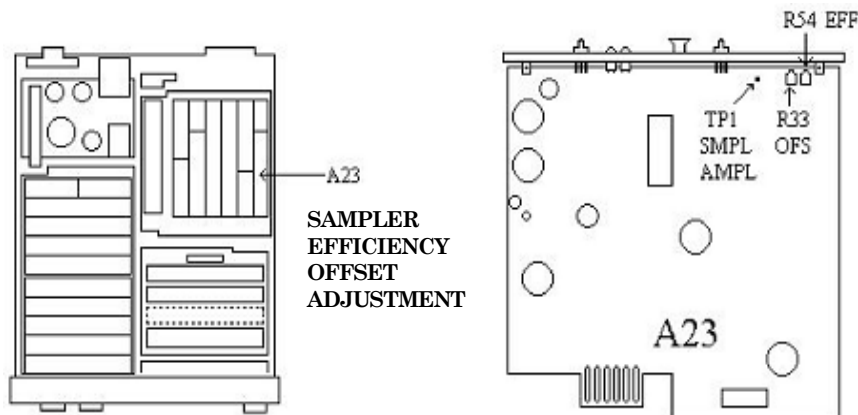

Figure 7. A23 board.
- (2) Connect TI sensor module to signal generator No. 1 **RF OUTPUT**.
- (3) Connect oscilloscope **Vertical 1** input to A23TP1 SMPL AMPL (fig 7).
- (4) Set signal generator No. 1 for an output of 18 MHz at a level of 0 dBm.
- (5) Set oscilloscope for the following:
- (6) Press TI keys as listed in (a) through (c) below:
- (7) Fine tune signal generator No. 1 up slowly until a zero beat appears on oscilloscope. Then increase signal generator No. 1 frequency by 1 kHz. Record the oscilloscope peak to peak amplitude as PK#1.
- (8) Increase signal generator No. 1 frequency by 30 kHz.
- (9) Adjust A23R33 OFS (fig. 7) such that when the oscilloscope input coupling is changed from ac to dc the waveform shifts upward 50 mV. Adjust only when the input coupling is set to dc. (R)
- (10) Adjust A23R54 EFF (fig. 7) for an oscilloscope indication of PK No.1 value recorded in (7) above.